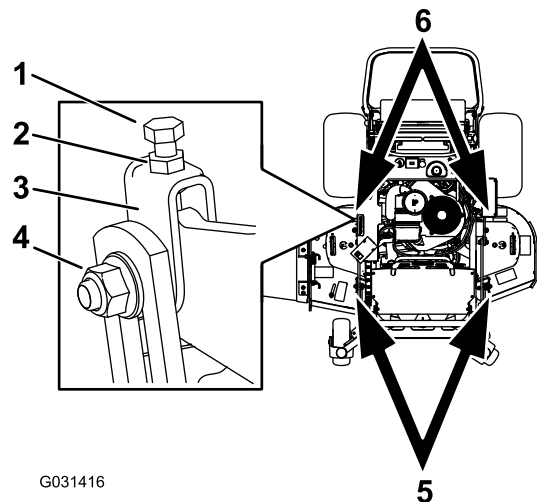

Figure 84
1. Loosen the jam nut and side bolt in the yokes that you want to adjust (Figure 84).
2. Rotate the top bolt of the yokes to adjust the height of the mower deck (Figure 84).
5. If the measurement is not correct, locate the front 2 yokes on the machine (Figure 84).